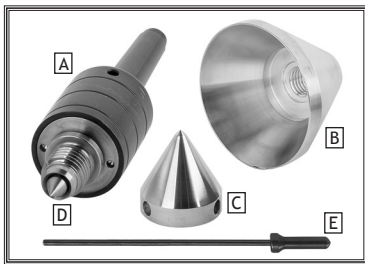

Figure 1. Model D4386 inventory.
Inventory (Figure 1)
1. Insert knockout rod (see Figure 1) through hole in live center body.